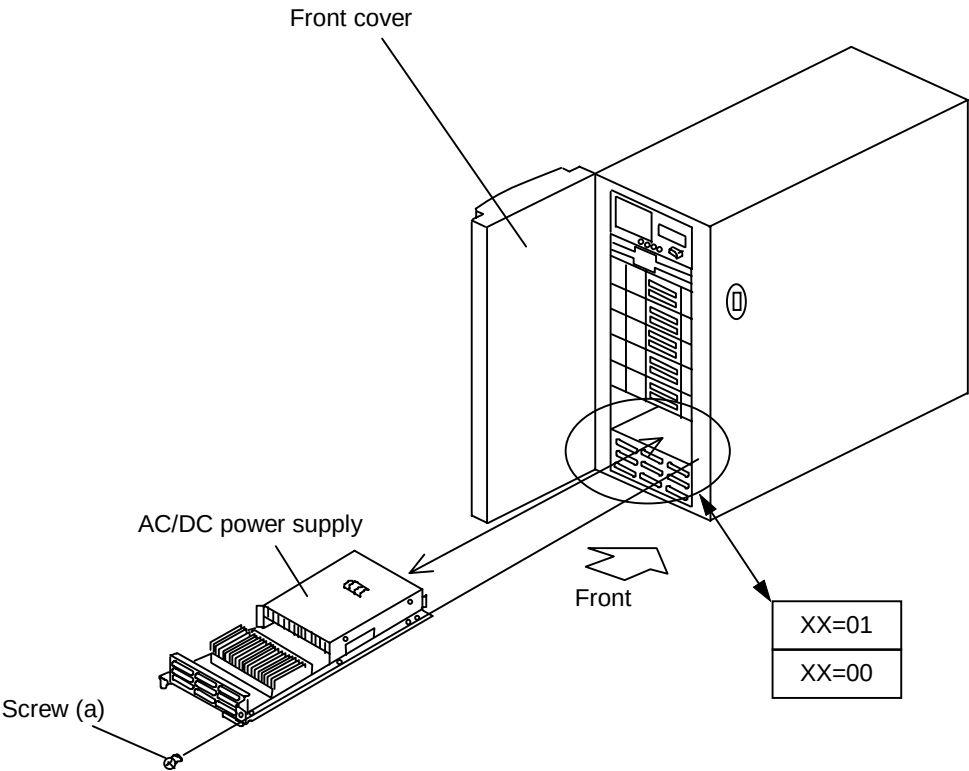

Figure 6.1 Replacing AC/DC Power Supply
6. Replacing AC/DC Power Supply (See Figure 6.1.)
(1) Removing
- ① Open the front cover. (See DK-REP0160.)
- ② Loosen the screw (a). (See Figure 6.1.)
- ③ Pull the AC/DC power supply to your side.
(2) Installing
- ① Insert the AC/DC power supply into the right place.
- ② Tighten the screw (a).
- ③ Close the front cover. (See DK-REP0160.)
(3) Transition of panel display
- ② Open the front cover. (See DK-REP0160.)
- ③ Loosen the screw (a). (See Figure 6.1.)
- ④ Pull the AC/DC power supply to your side.
(5) Installing